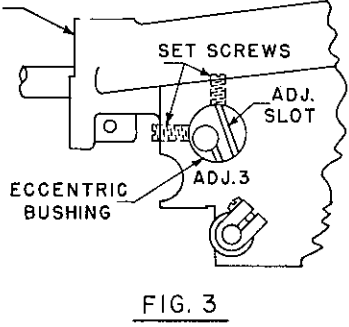

FIG. 3
61. Loosen the looper ball joint shaft eccentric bushing set screw, this will allow the bushing to slide either to the right or left, and to rotate so that the looper can be adjusted up or down, and at the same time the looper can be moved to the right or left. (See Figure 3, Adjustment 3.) that shows that the approximate setting of the eccentric bushing is with the looper shaft hole toward the needle end of the head, and the adjusting slot at an angle, and the slit into the shaft hole near the bottom.
66. Continue to rotate the hand wheel in clockwise direction until the short prong of the looper has passed the edge of the looper slot in the foot. If the short prong of the looper does not enter the looper slot in the foot, adjust so that the short prong will clear the edge of the looper slot in the foot by moving the eccentric bushing for the looper, Adjustment 3, Figure 3. Move the bushing the least amount possible so that the short prong clears the edge of the looper slot.
70. In case the needle should not enter about midway of the two prongs to correct this, loosen the eccentric bushing clamp screw, Figure 3, and turn the looper eccentric bushing in Adjustment 3, Figure 3, until the prongs of the looper are about equal distance from the needle. When this setting has been made, tighten the bushing set screw. See Figure 3.